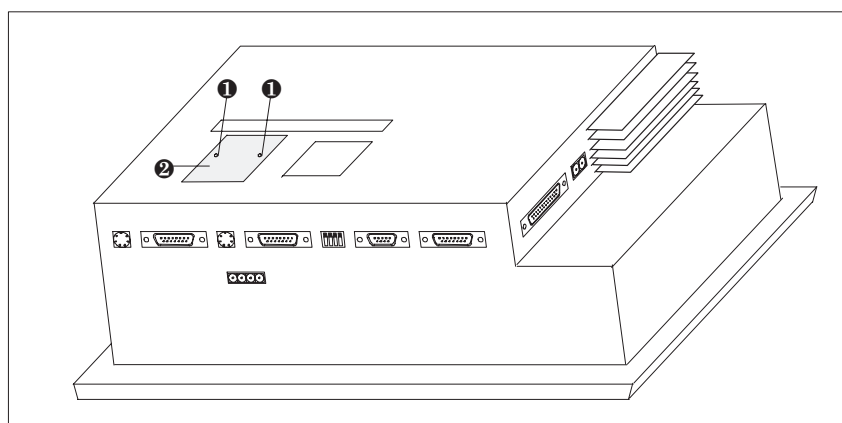

Figure 17-5 Removing the cover (example TP37)
2. Release the two pop rivets ❶ and then the cover ❷ indicated in figure 17-5 in an example of the TP37, from the rear panel of the Touch Panel.